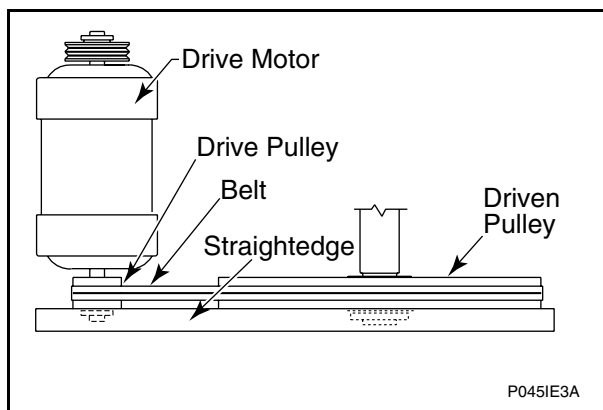

Figure 20
- c. Verify that V-belts are properly aligned by checking pulley alignment. Place a straightedge across both pulley faces. The straightedge should make contact with the pulleys in four places. See Figure 20.